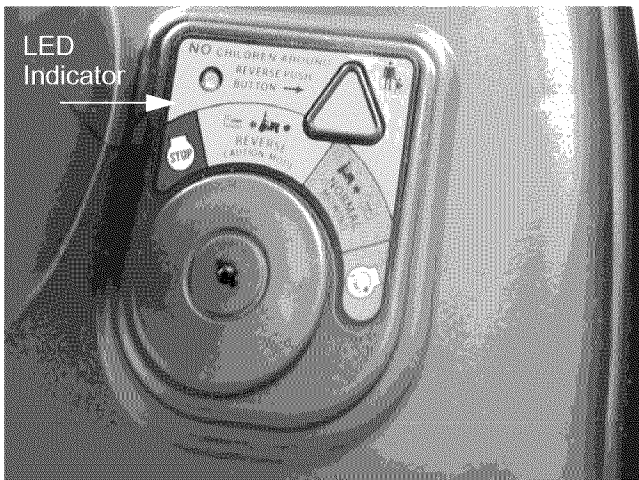

Figure 7.4
- **Working properly:** The module cannot be diagnosed if its function is not understood. It is designed to work as follows: See Figure 7.4.
- 1. **To arm the RMC module**: the operator must turn the key switch to the REVERSE CAUTION MODE (yellow zone), with the parking brake released. See Figure 7.4.
- **To turn the RMC module ON**: The module must first be armed, then the orange triangular button is depressed, illuminating the red LED indicator to indicate that it is ON. It is important that the operator must take two actions to turn the RMC module ON so that they do not do so inadvertently. See Figure 7.4.